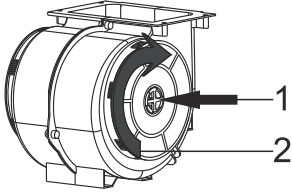

Fig. 6: AF100 CARBON FILTER
- 1-Place the carbon filter in its housing.Fig. 6
- 2-Rotating the carbon filter clockwise, ensure that it is completely fit.Fig. 6